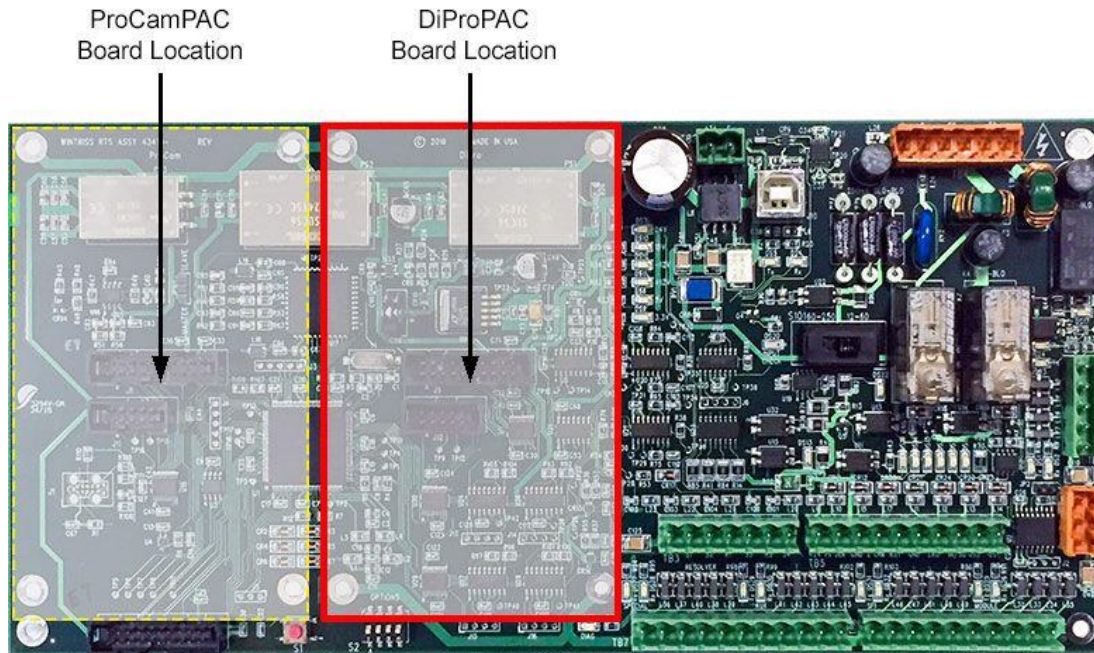

Figure 2-13. SmartPAC PRO Servo Board - DiProPAC Board, Right, Outlined in Red
Install these boards in the locations shown in Figure 2-13, page 44. If you install a board in the wrong location, SmartPAC PRO Servo will not recognize that the option is installed.
1. On the SmartPAC PRO Servo board, locate the connector in which the new board should be installed (see Figure 2-13).